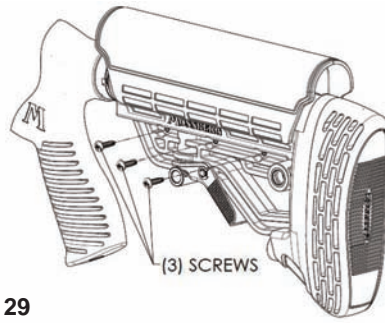

Fig. 29
Using a phillips head screwdriver remove the (3) screws on the stock and pull the shell holder off the stock (Fig. 29 and 30).